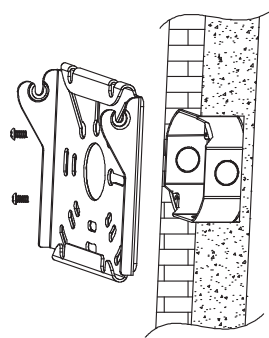

Figure 2
- Use mounting screws (not provided) to fix mounting plate to the J-box (not provided). Note the screw hanging hooks should be facing out once installed. (Figure 2)